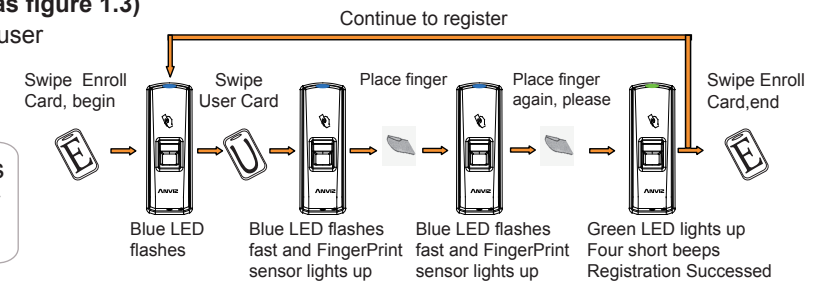

Figure 1.3
- Add Card+Fingerprint: (Operation Steps show as figure 1.3)**